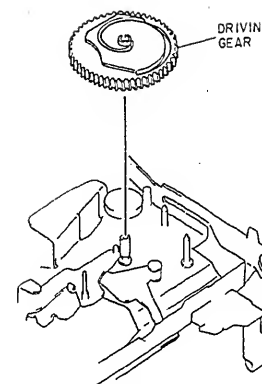

Fig. 2-90
1. Release the spring between the supply sub brake and chassis. (See Fig. 2-90)
1. Pull out the driving gear from the chassis. (See Fig. 2-90)